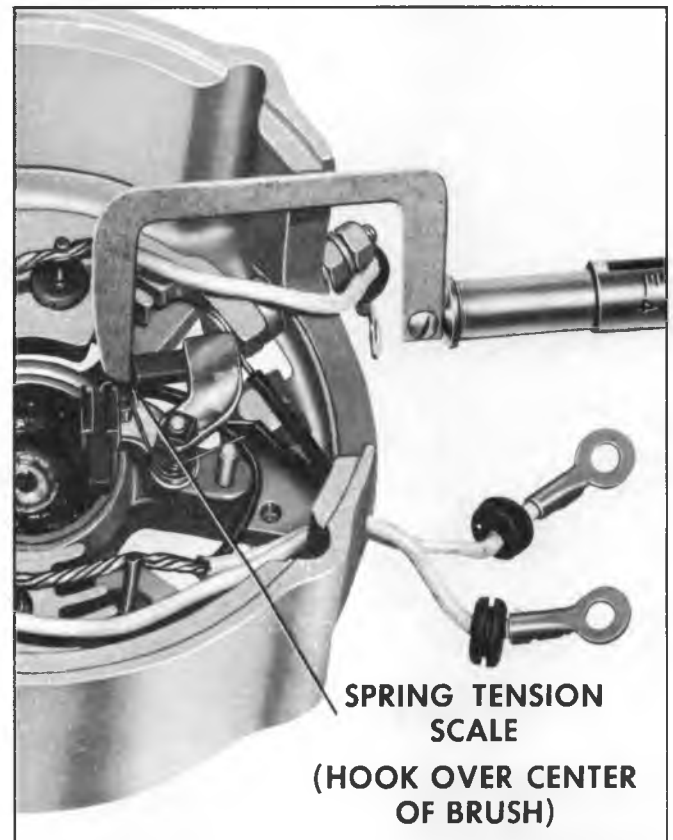

Fig. 15C--Checking Brush Spring Tension
**NOTE:** Brush spring tension should be checked as shown in Figure 15C. Excessive tension will cause rapid wear, whereas low tension results in erratic generator output and burning of slip rings. Defective springs must be replaced.